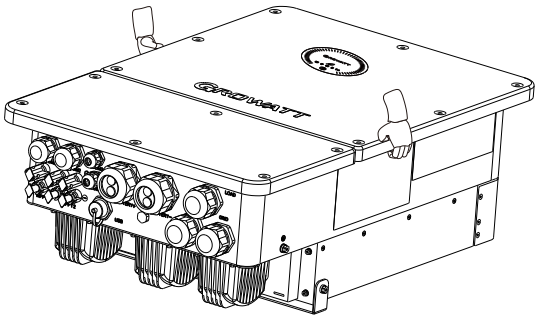

Fig 5.7
- 1>As shown in Fig 5.7, two persons are required to lift the inverter out of the package and transport it to the installation position.